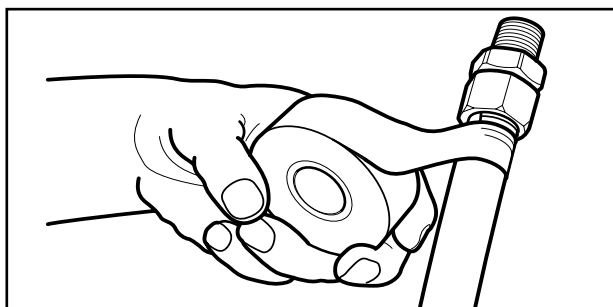

Figure: 4-17-Wrapping with self bonding silicone tape - begin on jacket.
1. When installed outdoors, the plastic jacketing shall remain intact as much as practical for the given installation. Any portions of exposed stainless steel shall be wrapped with self bonding silicone tape sealing the fitting connection to prevent later corrosive attack by acid wash or chloride based compounds. Figures: 4-17 and 4-18.
room or exposed to a corrosive environment which may be harmful to the tubing, all exposed portions of the stainless steel tubing shall be wrapped with self-bonding tape. Figures: 4-17, 4-18.